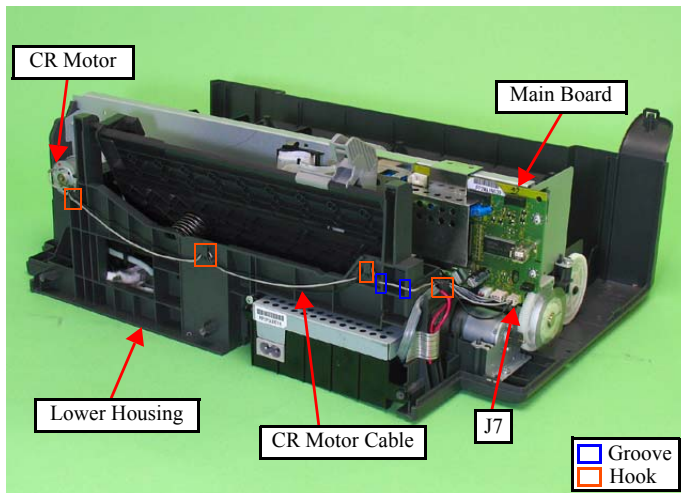

Figure 4-45. Removing the CR Motor (1)
- Route the CR Motor cable through the four hooks and the two grooves of the Lower Housing with some slack to prevent breaking the soldered portions. (See Fig.4-45.)